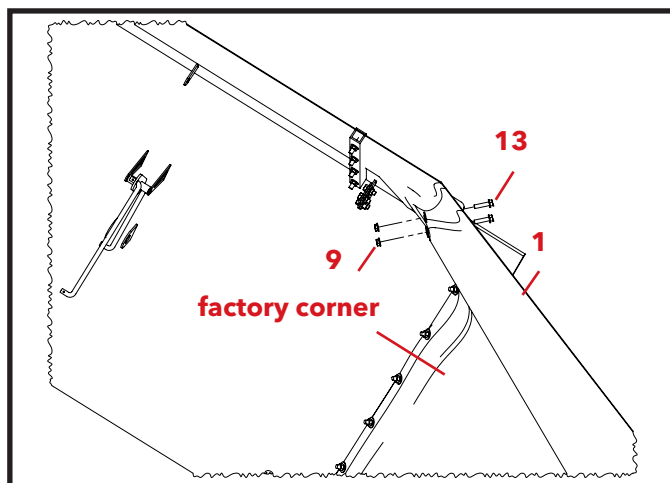

Figure 6
Attach both the factory corner and the Tip-Up Corner (1) to the Panel Bolt Bracket (5) using 5/16" x 1 1/4" bolts (13) and 5/16" flange nuts (9) provided. Repeat for the opposite side. See Figure 6.